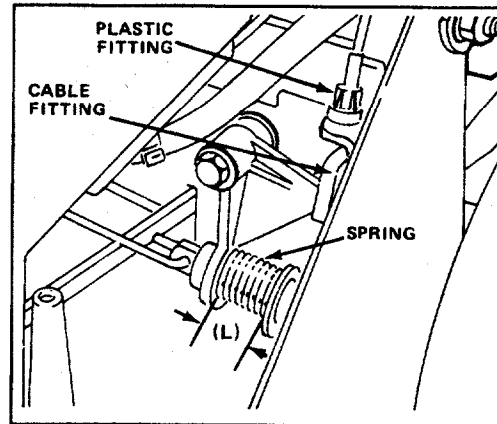

Figure 28
3. Move control bar down and lift up against handle. With control bar against handle, measure spring length (L) at the front of the spring as shown in figure 28.